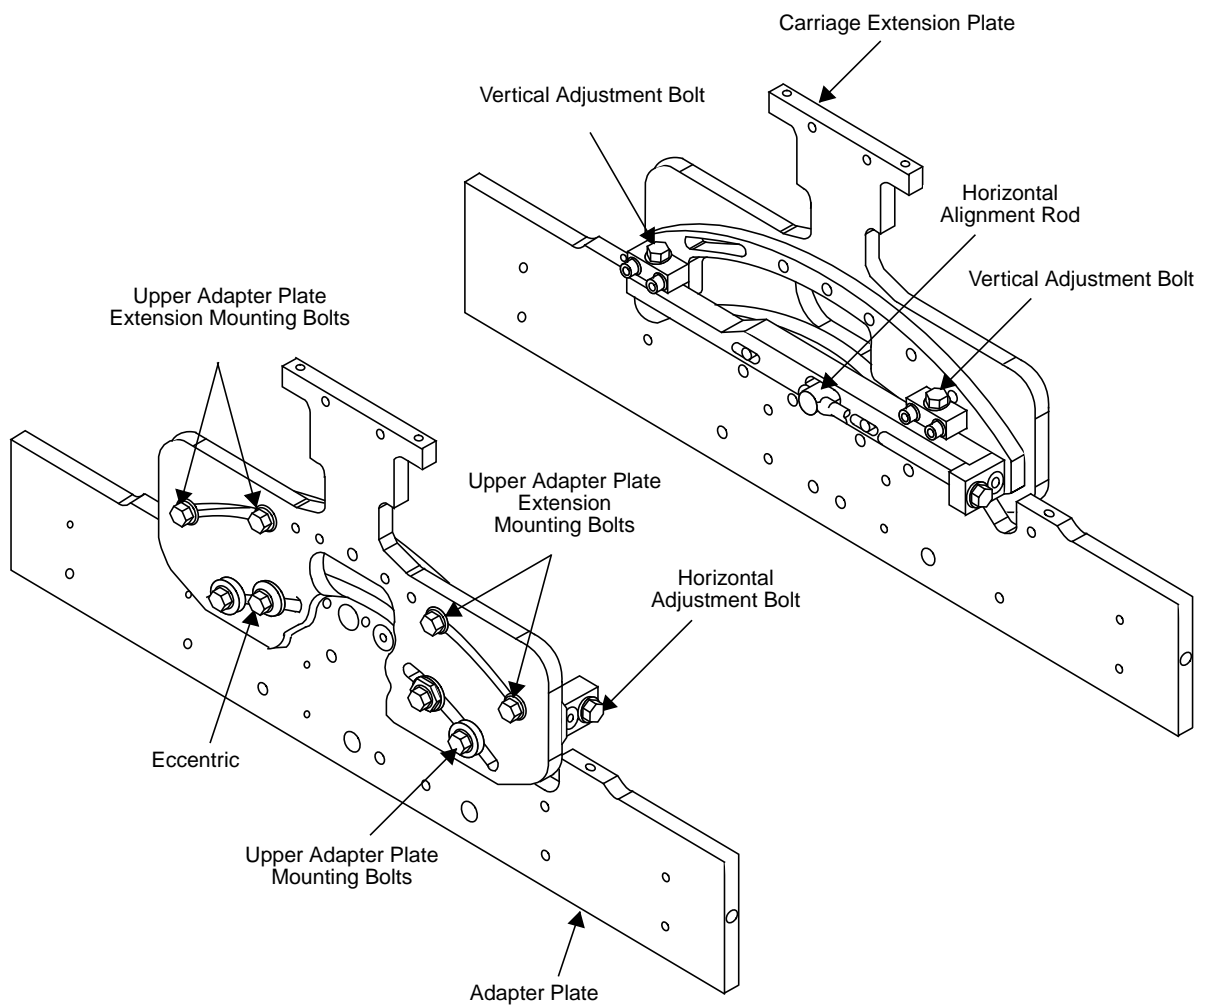
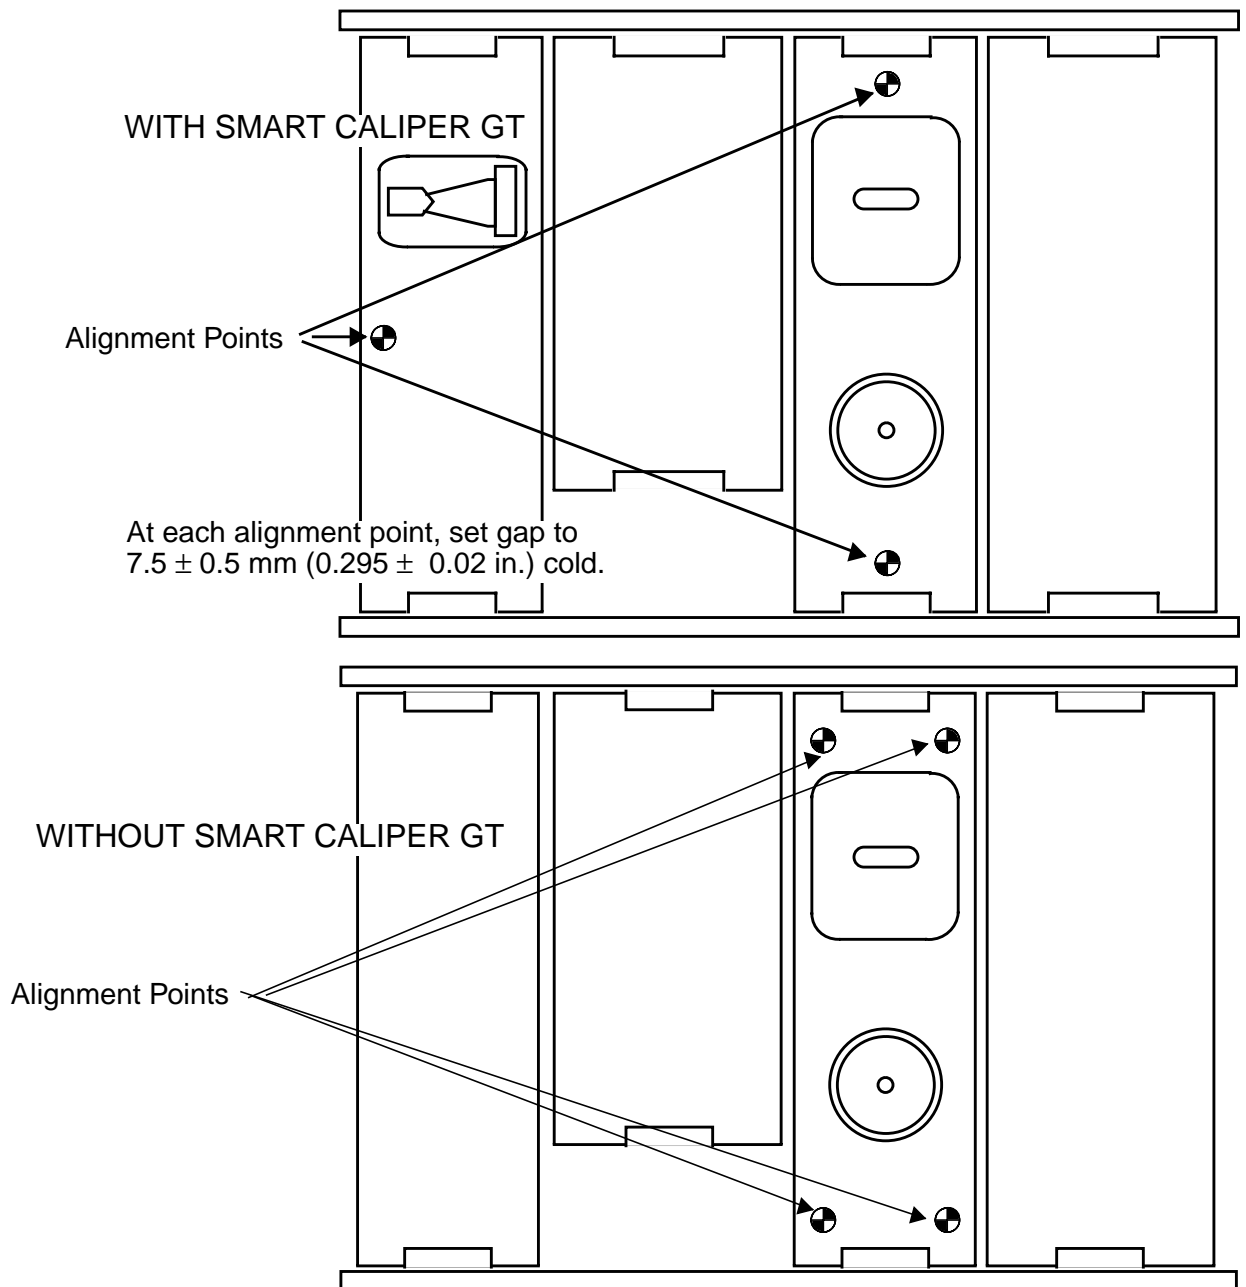
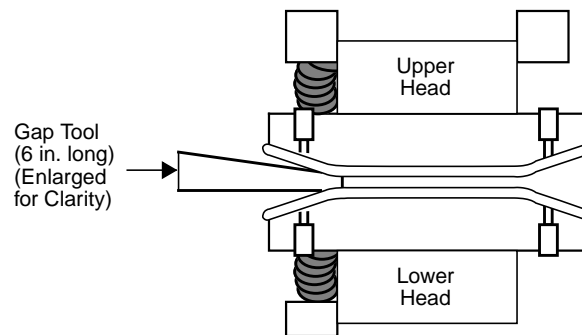

Figure 3-14 Upper Head Carriage
Figure 3-15 Air Gap Alignment Points
Figure 3-16 Air Gap Measurement Tool
3. Align the upper head to the lower head using the horizontal adjustment bolts on the adapter plate extension. See Figure 3-14 on page 50.
Refer to Figure 3-14 on page 50 and Figure 3-15 on page 51 while performing the air gap alignment procedure.
1. Use the vertical adjustment bolt to achieve a 7.5 ± 0.5 mm (0.295 ± 0.02 in.) cold air gap between the base plates along the on-sheet end of the sensors and at the points designated in Figure 3-15. For every half turn of a vertical adjustment bolt, do a half turn to its opposite adjustment bolt. Across the sensor window, check the distance using the air gap tool provided with the platform. If bolts seem to bind at any time, adjust the opposite side air gap before proceeding.
1. Insert the Gap Measurement Tool, part number 128624-001 and measure the gap size at the specified alignment points of the Basis Weight sensor and Smart Caliper GT (if present). See Figure 3-15 on page 51 and Figure 3-16.
Air gap specifications are shown in Figure 3-15.